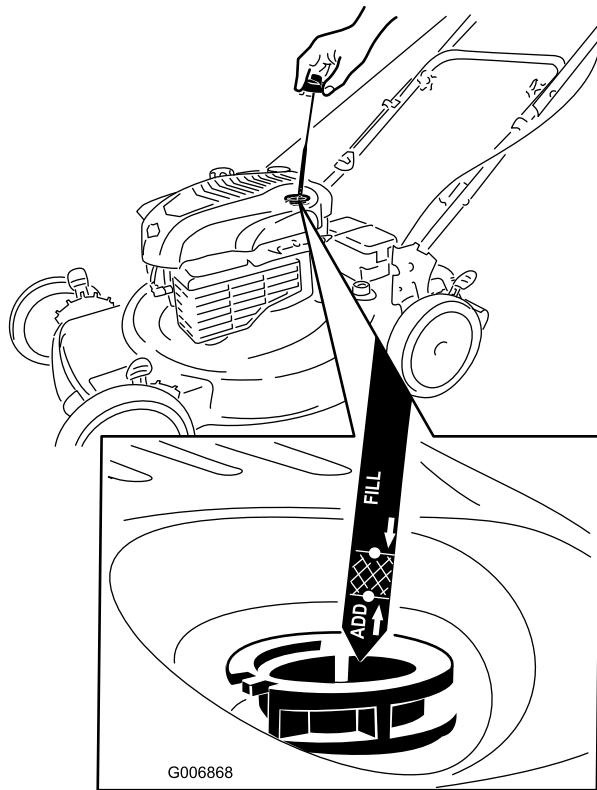

Figure 23
2. Remove the dipstick (Figure 23).
4. **Slowly** pour oil into the oil fill tube until the oil level reaches the **Full** line on the dipstick (Figure 23). **Do not overfill.** (Max. fill: 20 oz. (0.59 l), type: SAE 30 detergent oil with an API service classification of SF, SG, SH, SJ, SL, or higher.)